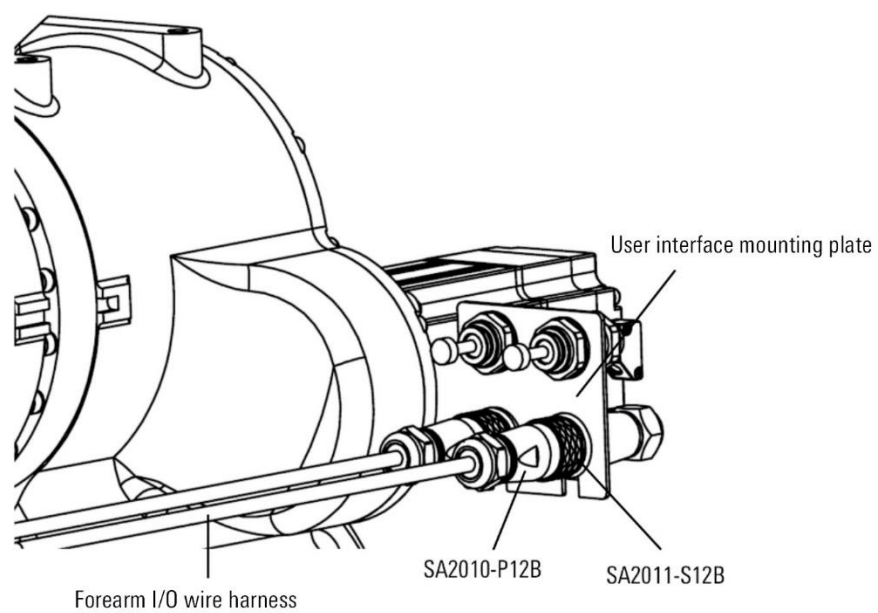

Figure 5-4 I/O harness connection diagram on the forearm
Step2. Plug the ② SA2010-P12B 12 pin pin cable plug at one end of the forearm IO harness into the SA2011-S12B 12 pin cable docking socket on the user interface mounting plate, and connect the loose wire at the other end to the customer's own end effector (reference Figure 5-4).